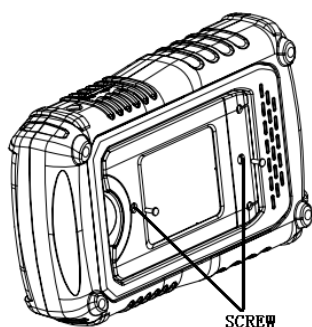

Figure 1
1. Dismantle the two screws of the battery cap by using screw knife, as figure 1 shows..